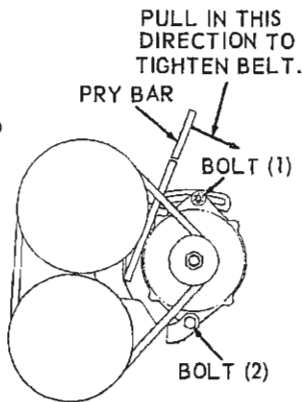

Fig. 6A-34 Generator Belt Adjustment - 6 Cyl.
5. WITH POWER STEERING INSTALLATIONS READJUST POWER STRG. PUMP BELT TO SPECIFIED TENSION (FIG. 6A-35).
1. GENERATOR BELT SHOULD BE TO SPECIFIED TENSION (FIG. 6A-34).